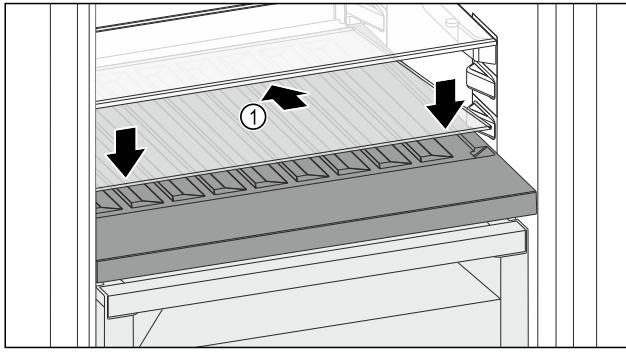

Fig. 99
- Place the glass shelf Fig. 99 (1) at an angle, sloping it downwards and backwards.
- Lower the glass shelf Fig. 99 (1) at the front.